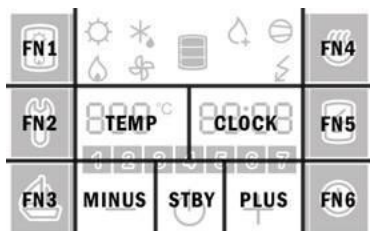

Fig. 12: Fields display
- By pressing the right number (Field CLOCK in Figure 12) you proceed to the next parameter.